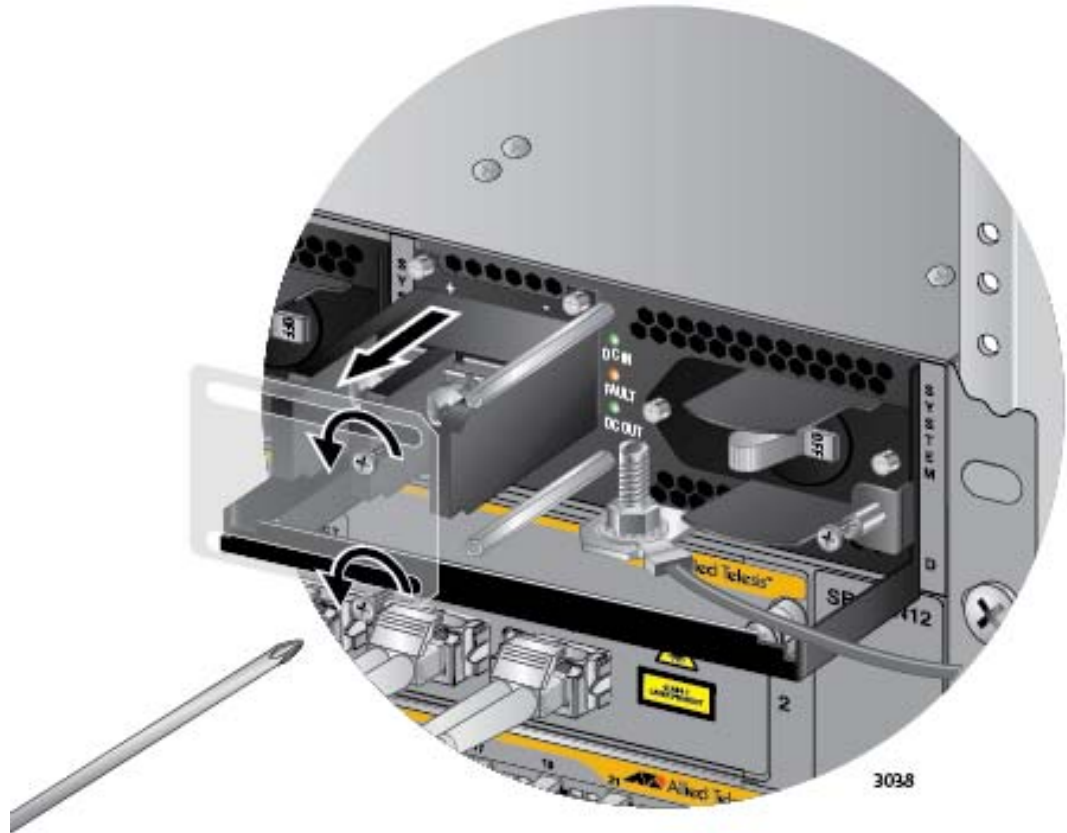

Figure 140. Removing the Plastic Cover
- Using a #1 Phillips-head screwdriver, remove the two screws that secure the plastic cover over the positive and negative terminals and remove the plastic cover from the power supply, as shown in Figure 140. You may need to lift the locking handle slightly to access the bottom screw.